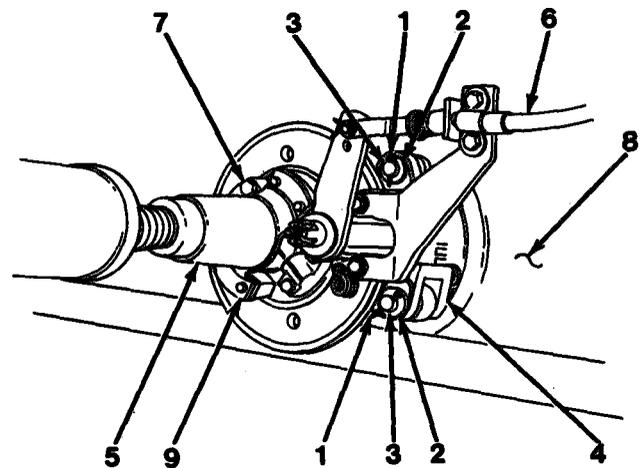

Figure 12-1
6. Remove two cotter pins (1), washers (2), pins (3) and parking brake assembly (4) from axle (8). Discard two cotter pins (1). Let parking brake assembly (4) hang by cable (6, Figure 12-1).